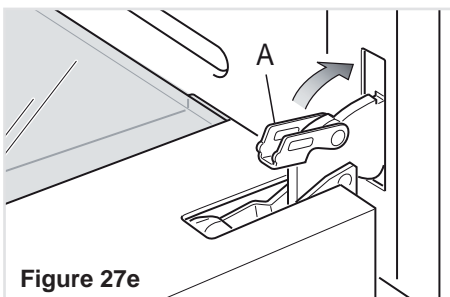

Figure 27e
- Unlock the oven door by opening it completely and closing the lever "A" on the left and right hinges (Fig. 27e).